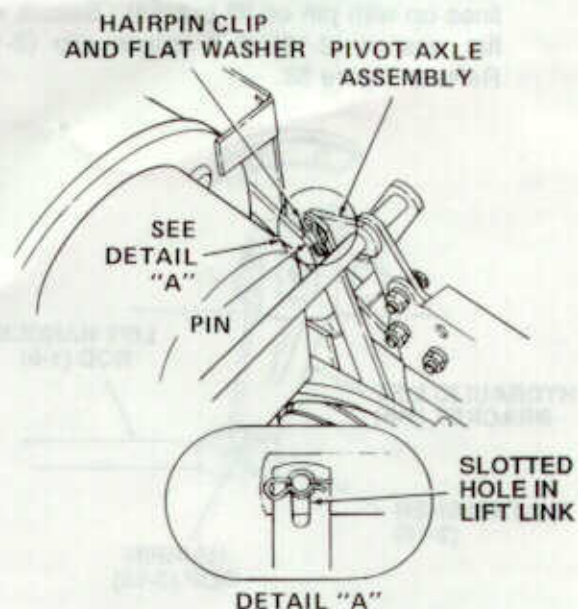

Figure 36
- b. Move pivot axle assembly so pin on pivot axle assembly is at top of slot in lift link. Refer to Figure 36.